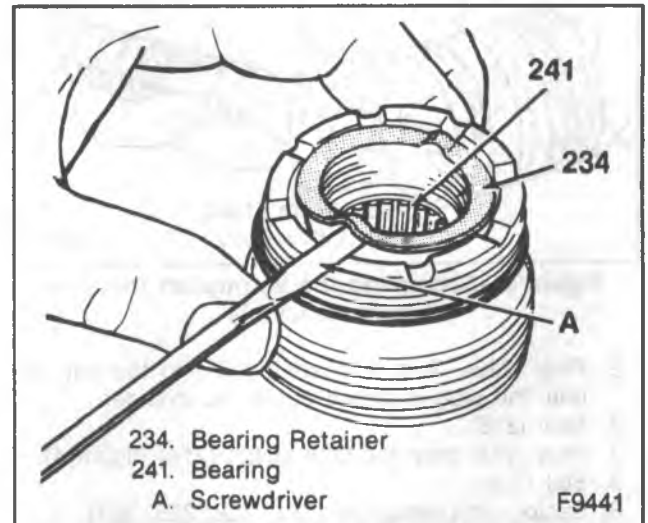

Figure 7—Removing the Bearing Retainer
- Retaining ring (244) using J 4245.
- Washer (243), seal (242) and bearing (241).
- Bearing retainer (234). Pry the retainer with a screwdriver at the raised area (figure 7).